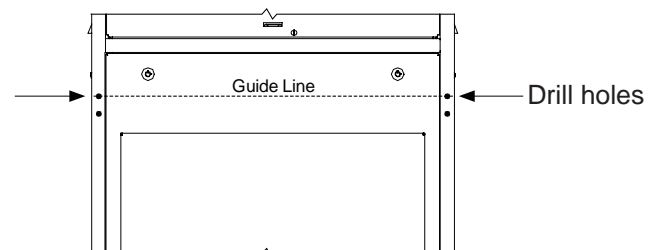

Fig. 3
5. Drill the holes using a #20 drill bit. See Fig 3.